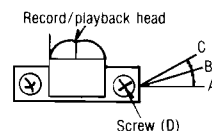
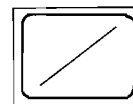

Fig. 5
Fig. 8
2. Playback the 8kHz signal from the test tape (QZZCFM). Adjust screw (D) in fig. 5 for maximum output L-CH and R-CH levels. When the output levels of L-CH and R-CH are not at maximum at the same point adjust as follows.
3. Turn screw (D) shown in fig. 5 to find angles A and C (points where peak output levels for left and right channels are obtained). Then, locate angle B between angles A and C, i.e., point where L-CH and R-CH outputs are balanced. (Refer to figs. 5 and 6.)
5. Playback the 8kHz signal from the test tape (QZZCFM). Adjust screw (D) shown in fig. 5 so that pointers of the two VTVMs swing to maximum and a lissajous waveform as illustrated in fig. 8 is obtained on the oscilloscope.